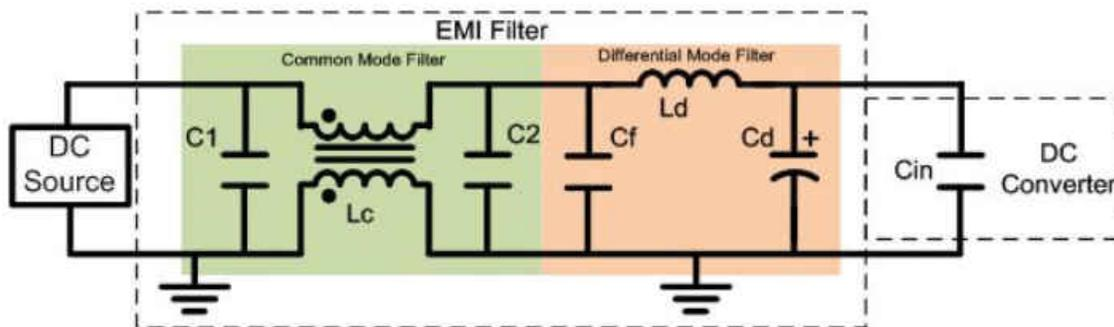
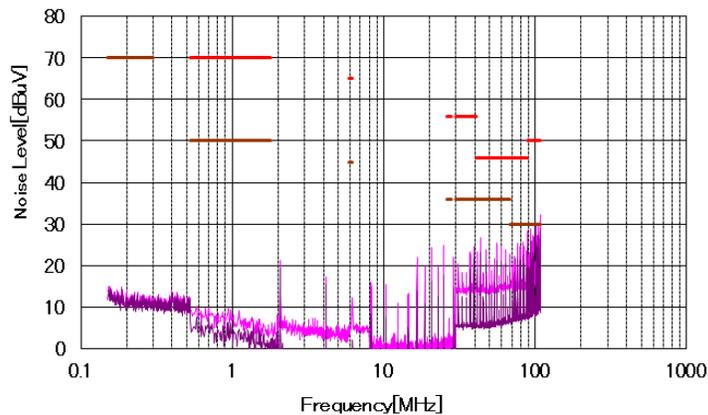
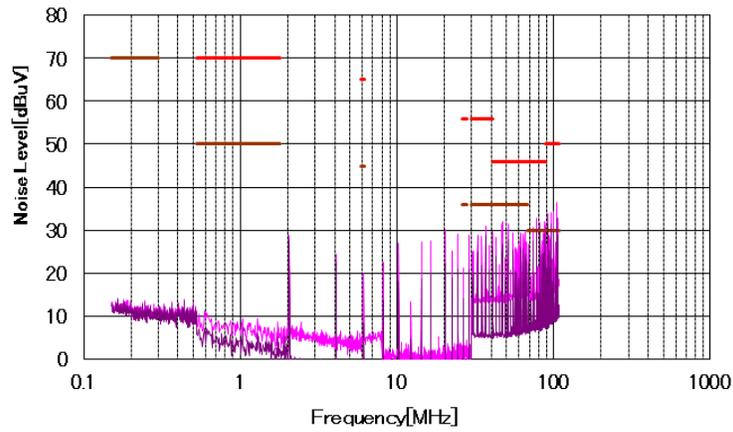

Figure 6. A Simplified EMI Filter
Figure 7. U-type EMI Performance Using a DM and CM Filter
Figure 8. I-type EMI Performance Using a DM and CM Filter
Adding a filter is an effective way to improve EMI performance. Figure 6 shows a simplified EMI filter, which includes a common-mode (CM) filter and a differential mode (DM) filter. Generally, the DM filters noise less than 30MHz and the CM filters noise from 30MHz to 100MHz. Both filters have an effect on the entire frequency band where EMI needs limiting. Figure 7 and Figure 8 compare the conducted EMI with both a common-mode filter and a differential-mode filter. The U-type layout can pass CISPR 25 Class 3 standards, but the I-type layout cannot.